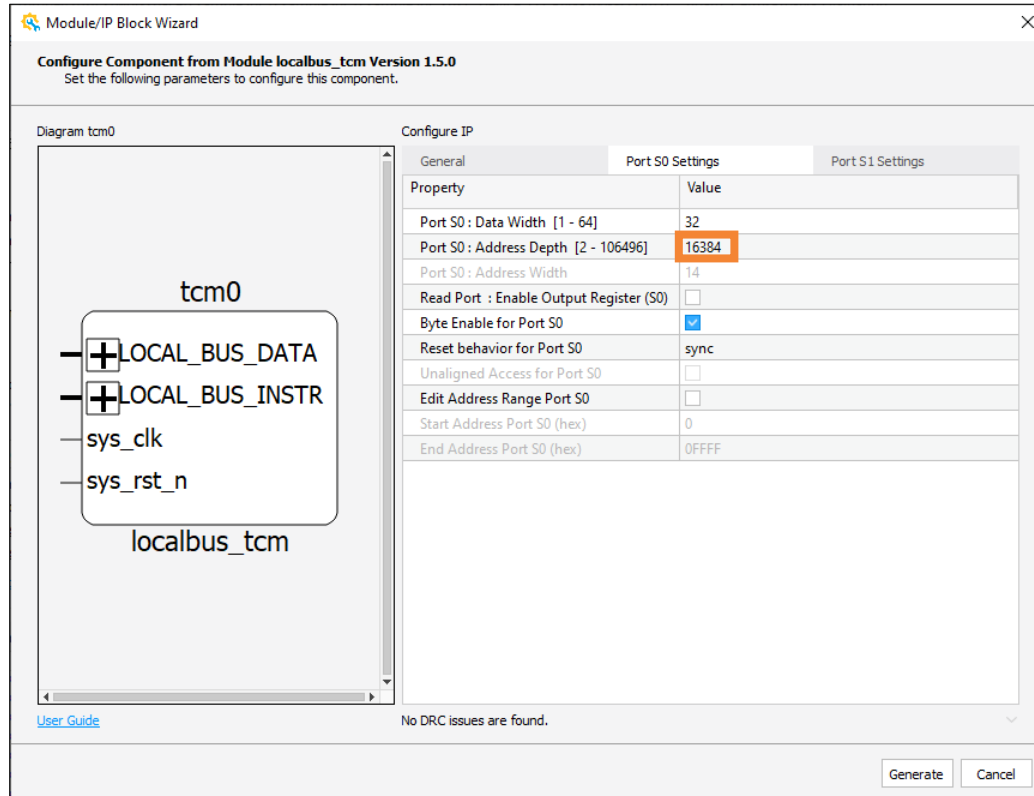
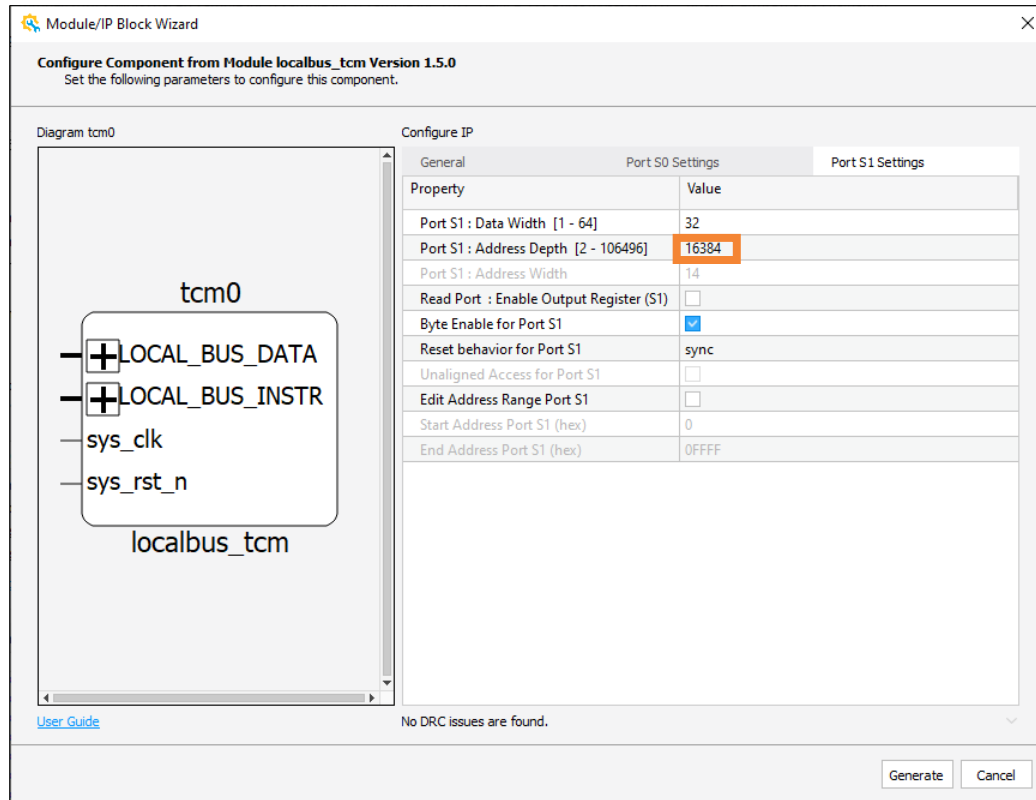

Figure A.9. `tcm0_inst` Port S0 Address Depth Settings 2
Figure A.10. tcm0_inst Port S1 Address Depth Settings 2
2. Double-click the tcm0_inst IP. The Port S0 address depth settings and the Port S1 address depth settings are shown in the Module/Block IP Wizard GUI (Figure A.9 and Figure A.10).